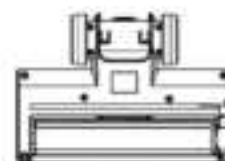

Fig 1
2. The underside of the motorised brush comes with a strip of dust blocking felt (Fig 1) for effective dust pick up. DO NOT move the motorised brush backward towards the dirt you want to pick up.